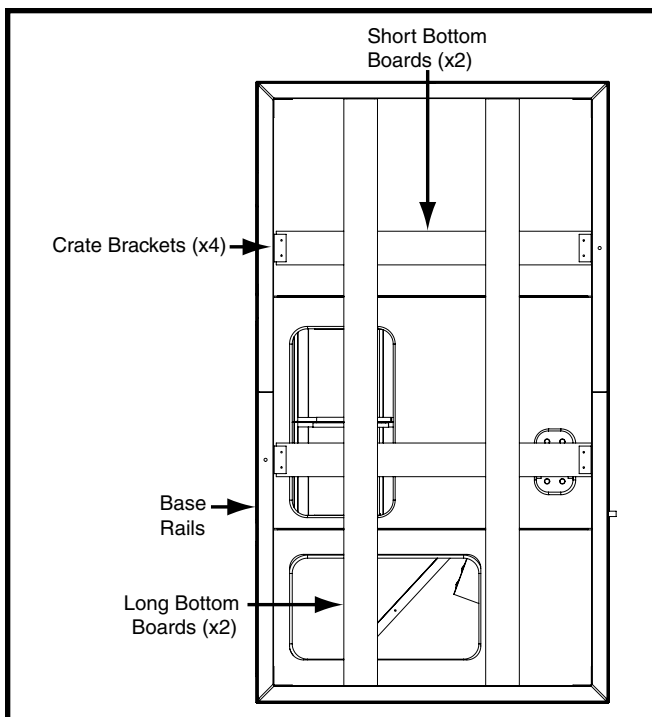

Figure 4. Bottom View
4. Remove crate brackets securing long and short bottom boards to underside of unit. See Figure 4 \(page 5\). **NOTE:** Some screws are located in fork slots.